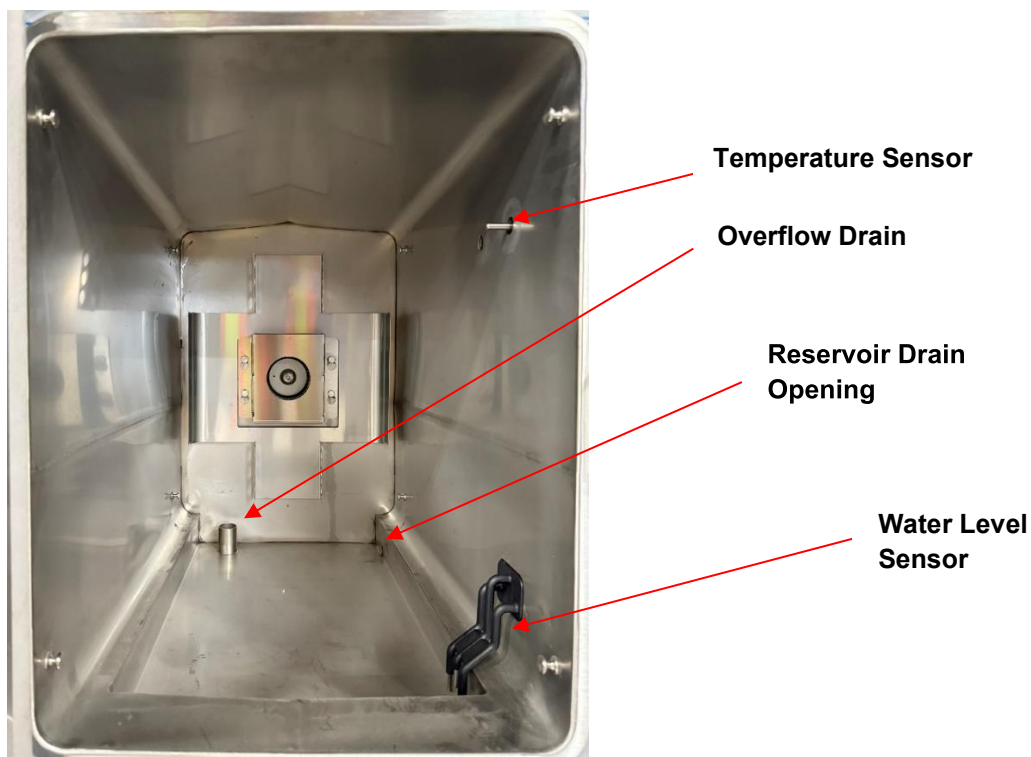

Figure 5-2 Inspecting Compartment Drains
3. Remove the door gasket assembly, pan racks, backplate, fan guard, and KleanShield™, and make sure all surfaces are clean and drain openings and the water level sensors are clean and free of any residue or debris. See Figure 5-2.